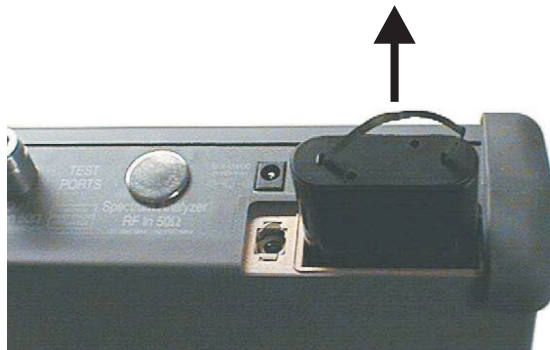

Figure 9. Removing the Battery
4. Grasp the battery lanyard and pull the battery straight up and out of the unit, as illustrated in Figure 9.